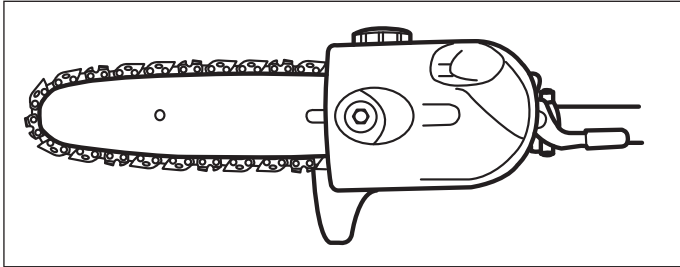

Fig. 9a
- a). Set the product on any suitable surface with the chain oil tank cap (D1) facing upwards. (See Fig. 9a)